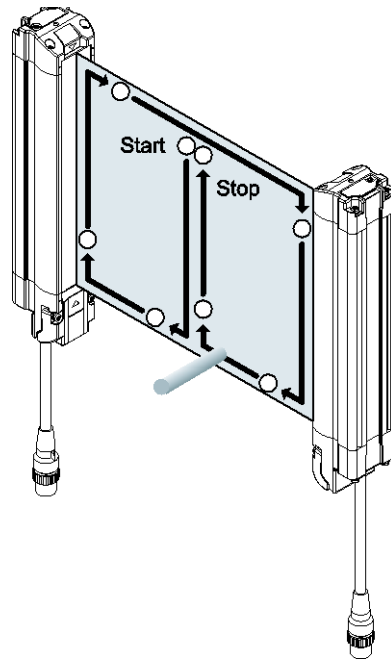

Figure 2-34. Test Object Pattern
6. Interrupt the Shadow 9 sensing field with the shank of a 1/8-in. (3.2 mm) screwdriver to check the unit's alignment. Move the test object inside the perimeter (along the top, sides, and bottom) of the sensing field and up and down through the center of the sensing field, as shown in Figure 2-34. The ON/OFF LED on the first receiver should be illuminated green.